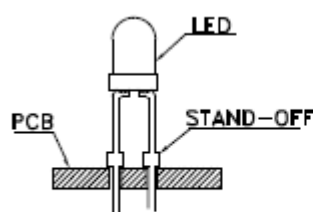
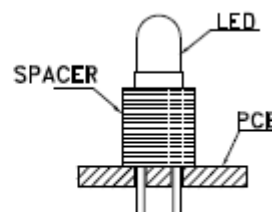

Fig. 3
Fig. 4
3. Use stand-offs (Fig.3) or spacers (Fig.4) to securely position the LED above the PCB.